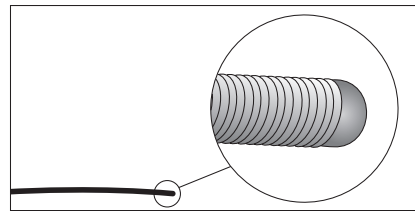

Figure 26
- Examine tip of placement wire after removal to ensure wire has not been altered (refer to Figure 26).